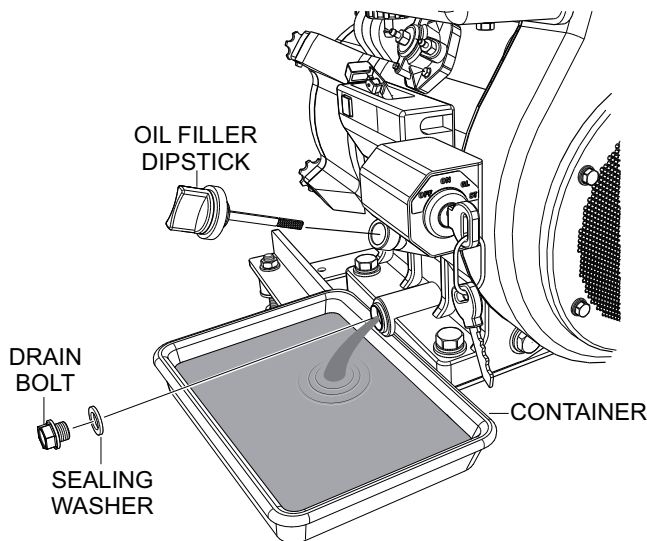

Figure 12. Engine Oil (Draining)
1. Drain the engine oil when the oil is **warm** as shown in Figure 12.